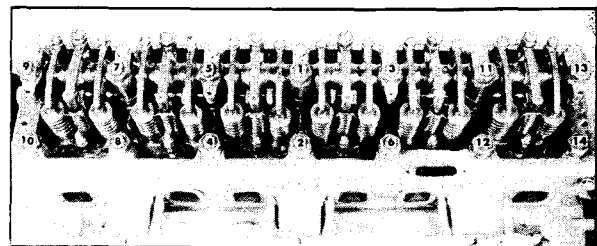

Fig. 12-54. Cylinder head stud nut tightening order
3. Tighten all cylinder head stud nuts to 240-250 foot-pounds. Tighten in steps of 50 foot-pounds and in the order shown in Fig. 12-54.